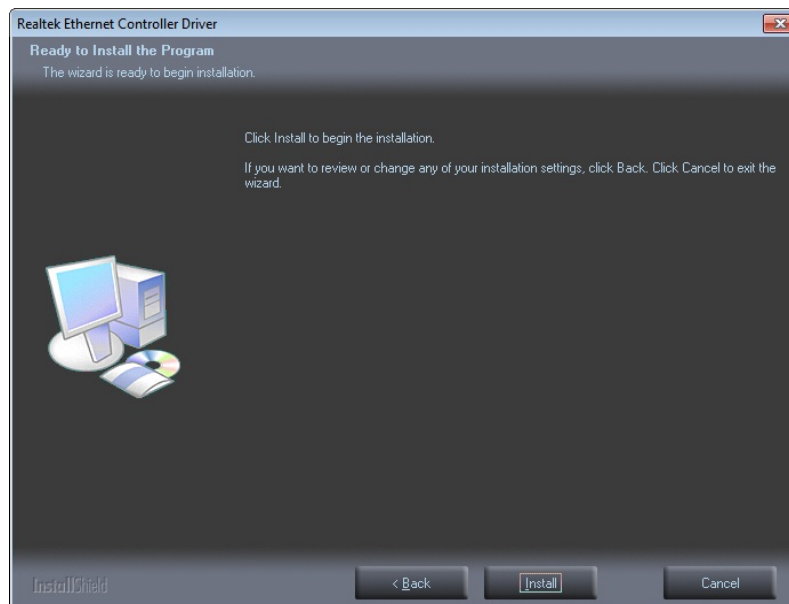

Figure 6-15: LAN Driver Installation
Step 7: The **Ready to Install** screen in **Figure 6-15** appears.